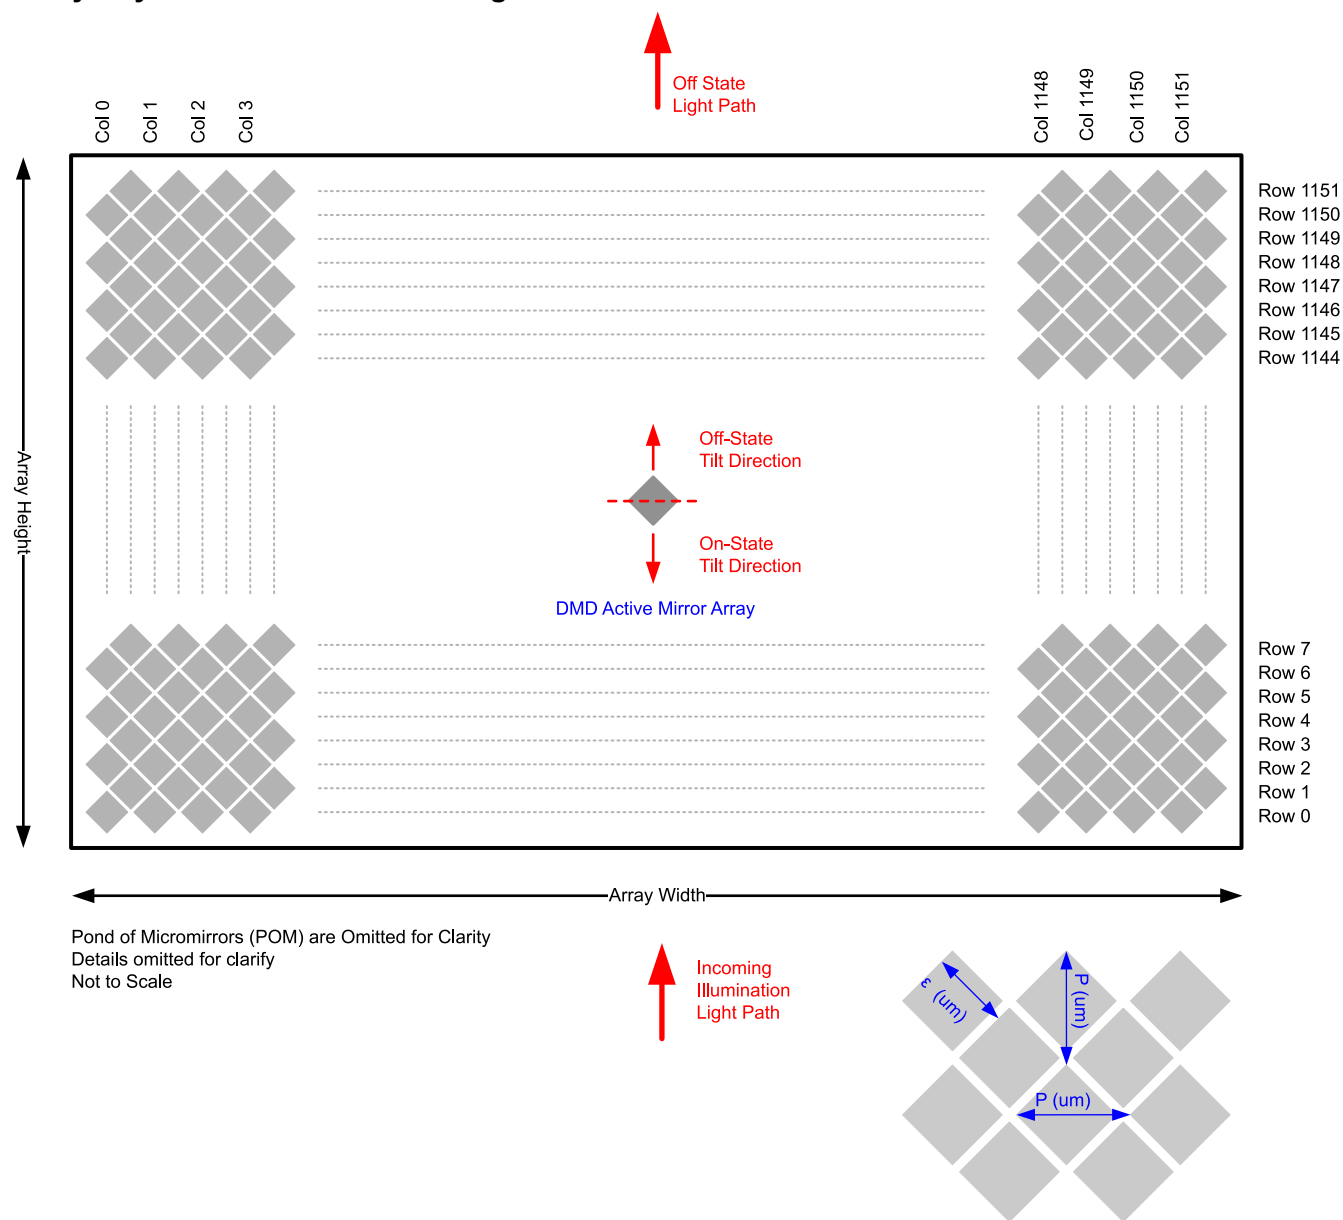

图 6-13. Micromirror Array Physical Characteristics
(1) See 图 6-13
(2) The structure and qualities of the border around the active array includes a band of partially functional micromirrors called the POM. These micromirrors are structurally and/or electrically prevented from tilting toward the bright or ON state, but still require an electrical bias to tilt toward OFF.
The DLP5533A-Q1 Automotive DMD consists of 1,327,104 highly reflective, digitally switchable, micrometer-sized mirrors organized in a two-dimensional array. As shown in Figure 6-13, the micromirror array consists of 1152 micromirror columns \times 1152 micromirror rows in a diamond pixel configuration with a 2:1 aspect ratio.